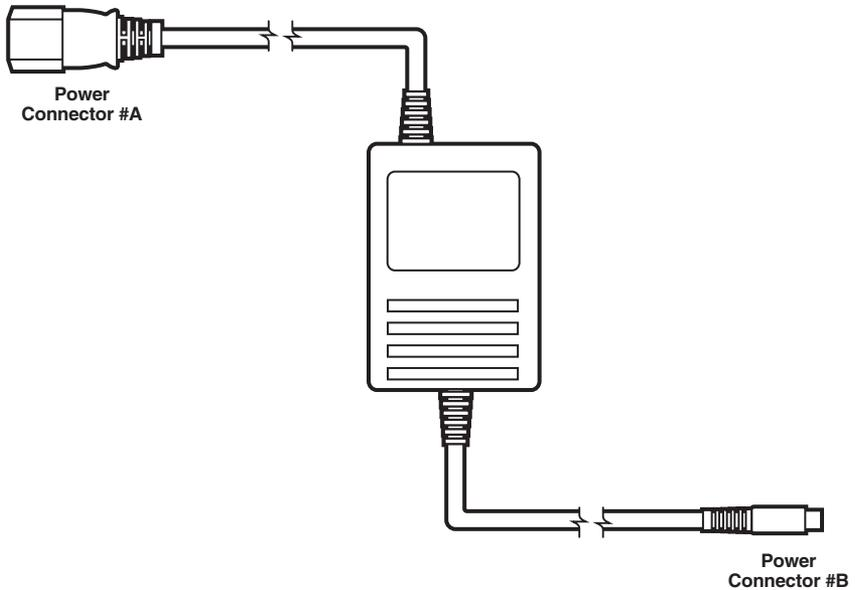

Figure 6-8. The 4-Port Student Hub's Power Supply for USA and Europe.
Figure 6-8 illustrates the 4-Port Student Hub's Switching Power Supply suitable for the USA and Europe, which you connect as follows:
1. Connect the Switching Power Supply's Power connector (labeled Power Connector #A in **Figure 6-8**) to the Power Cord's Power connector.
2. Connect the Switching Power Supply's Power connector (labeled Power Connector #B in **Figure 6-8**) to the 4-Port Student Hub's Power connector.